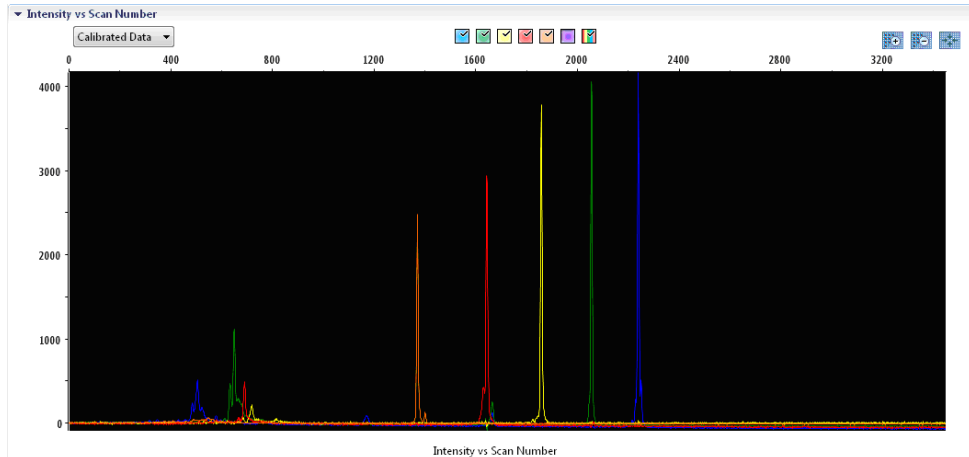

Figure 3. Electropherogram of spectral calibration of the matrix standard BT5 on an Applied Biosystems 3500 Genetic Analyzer.
- Check the matrix samples for a flat baseline. As shown in the Figure 3, there should be 5 peaks with peak heights of about 1000–5000 RFU for each matrix sample (**Note:** The optimal range is 2000–4000 RFU).